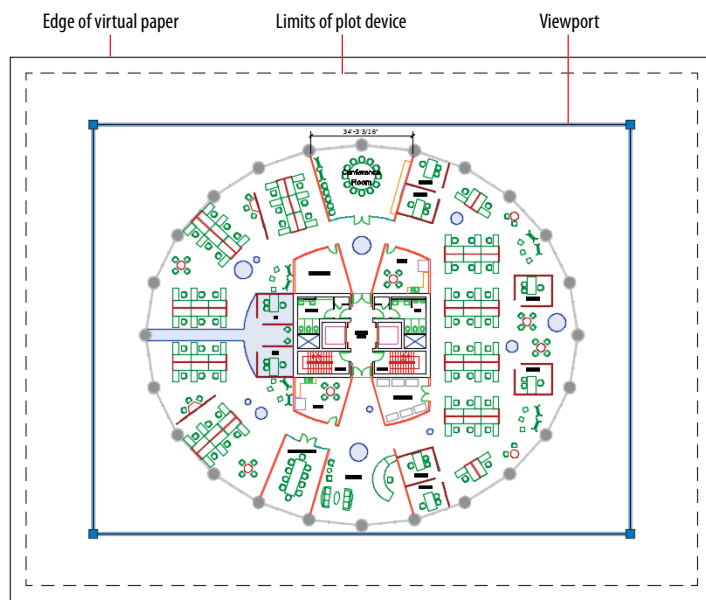

FIGURE 13.11 Viewing a layout in paper space
4. The image in the drawing canvas changes as you enter paper space. A white representation of paper is displayed with an automatically created viewport through which you can see the drawing in model space. The viewport object is on the Z-Viewport layer. The dashed lines indicate the limits of the plotting device's printable area. Make a crossing selection across the entire layout—only the viewport is selected because there is only one object currently in paper space (see Figure 13.11). Press Esc.